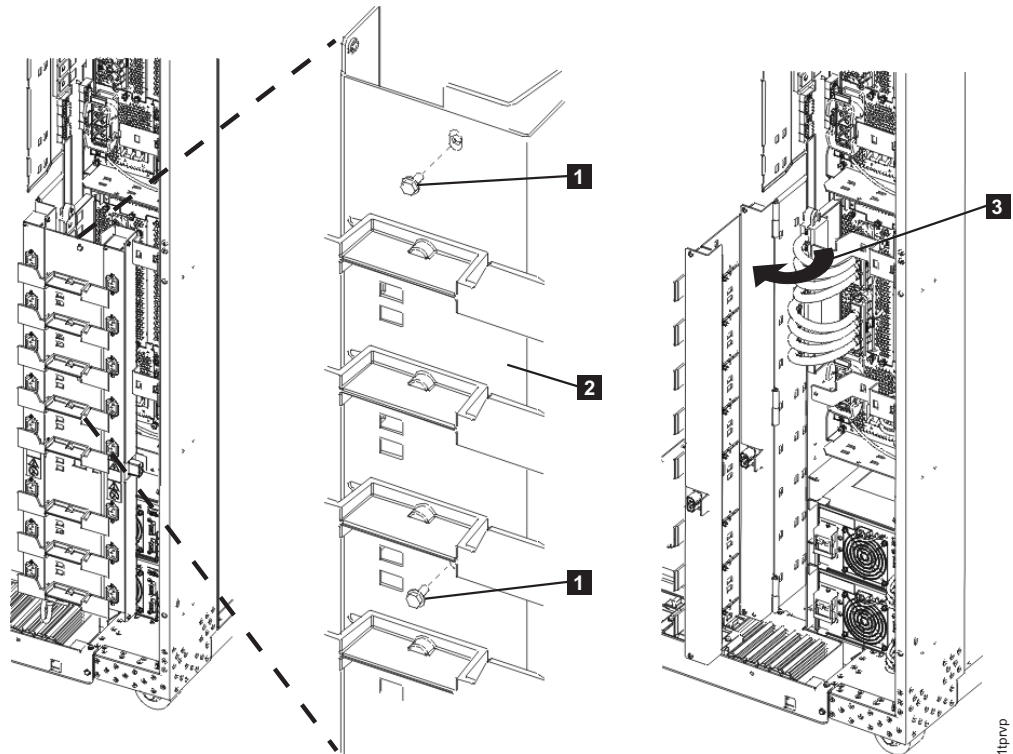

Figure 5. 208VDC bus bar gate
10. Locate the 208VDC bus bar gate. Refer to Figure 5. Remove the two screws **1** and swing it out to the service position **3**.